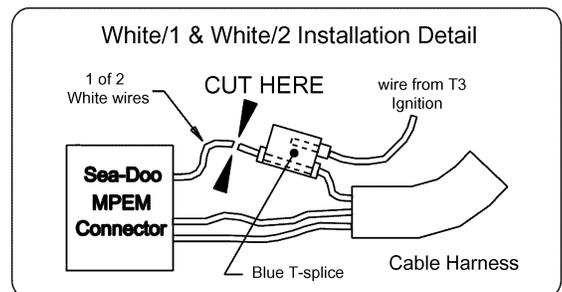

Figure 4
2. Using a pair of wire cutters, cut the Sea-Doo (White/1) wire mid-way between the T-splice and the Sea-Doo connector P3, see Figure 4. This will leave a pigtail on the Sea-Doo connector and the T-splice to reconnect the stock ignition if it becomes necessary.